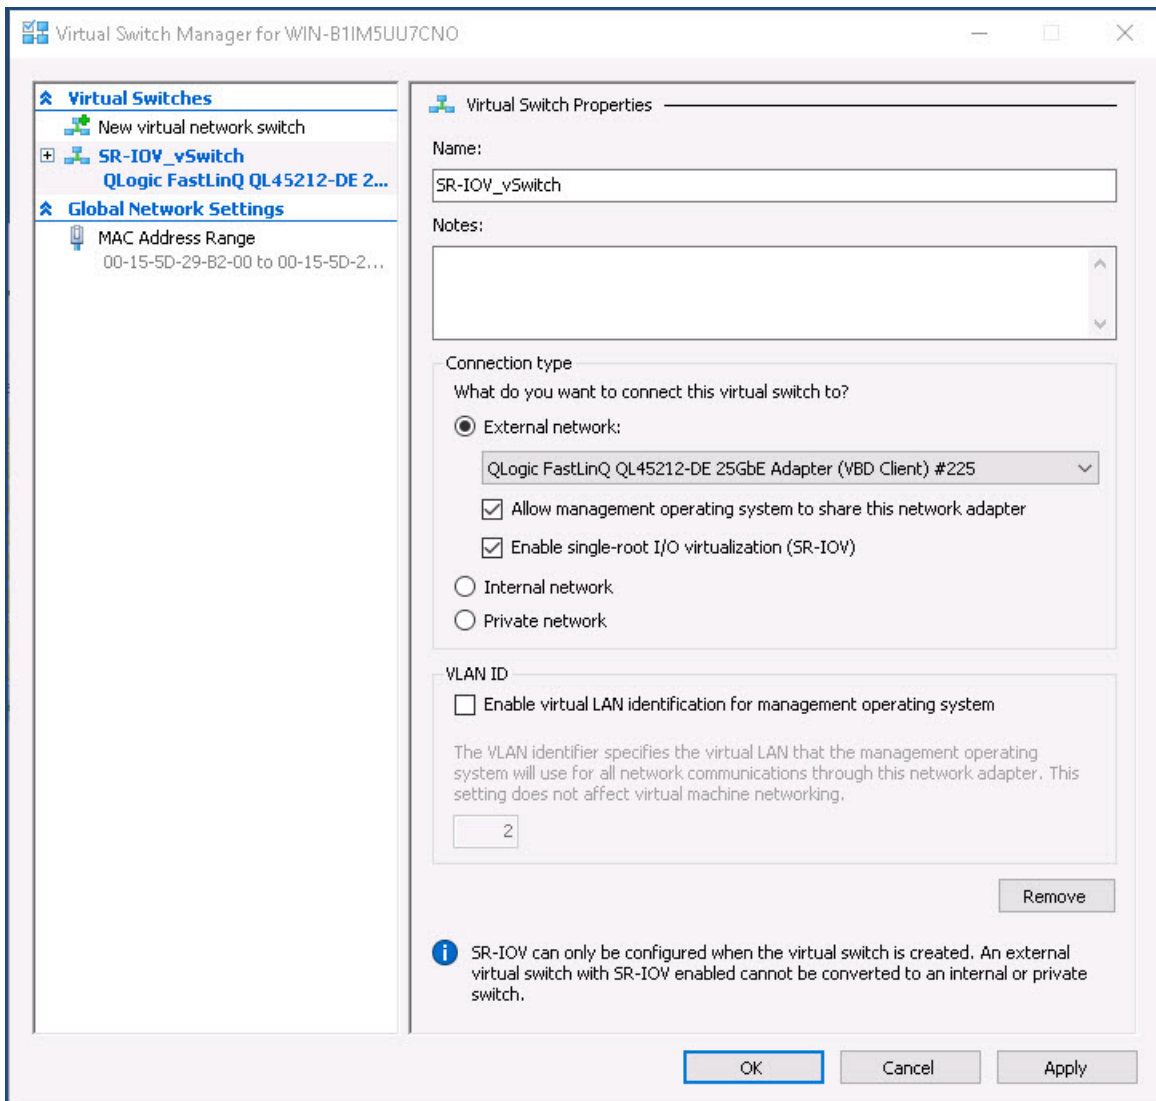

Figure 8-4. Virtual Switch Manager: Enabling SR-IOV
10. To create a Virtual Machine Switch with SR-IOV (Figure 8-4 on page 102):